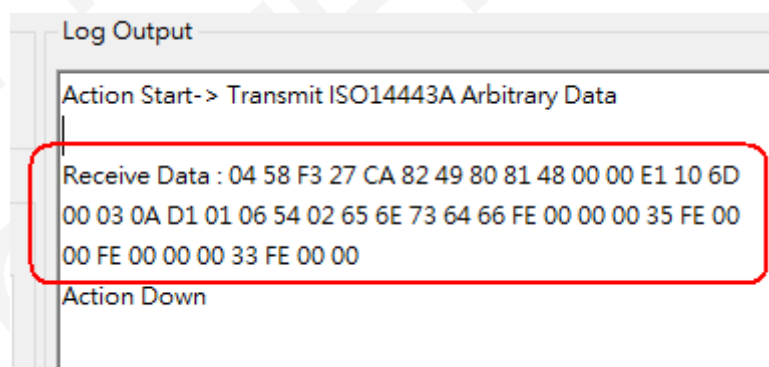

Figure 4.6-3 Review result in log windows
4. Review result in log windows as shown in Figure 4.6-3.